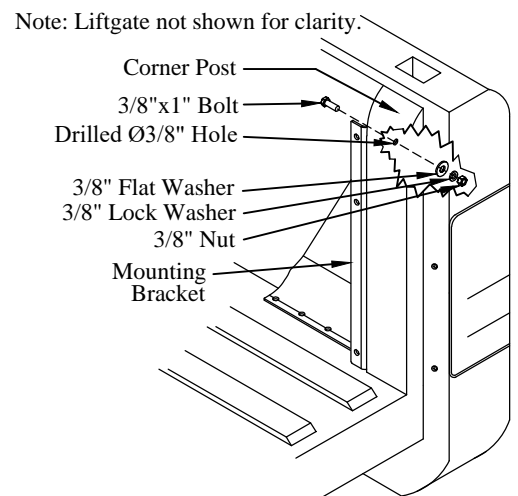

Figure 9: Mounting bracket and backer plates.
- (1) backer plate, (2) lock washers, and (2) hex nuts on the under-side.
9. **Drill** one (1) 3/8" hole into the truck corner post using hole in the bracket as a guide (Figure 9).
10. **Fasten** each bracket to the truck corner post using the supplied (Figure 9):